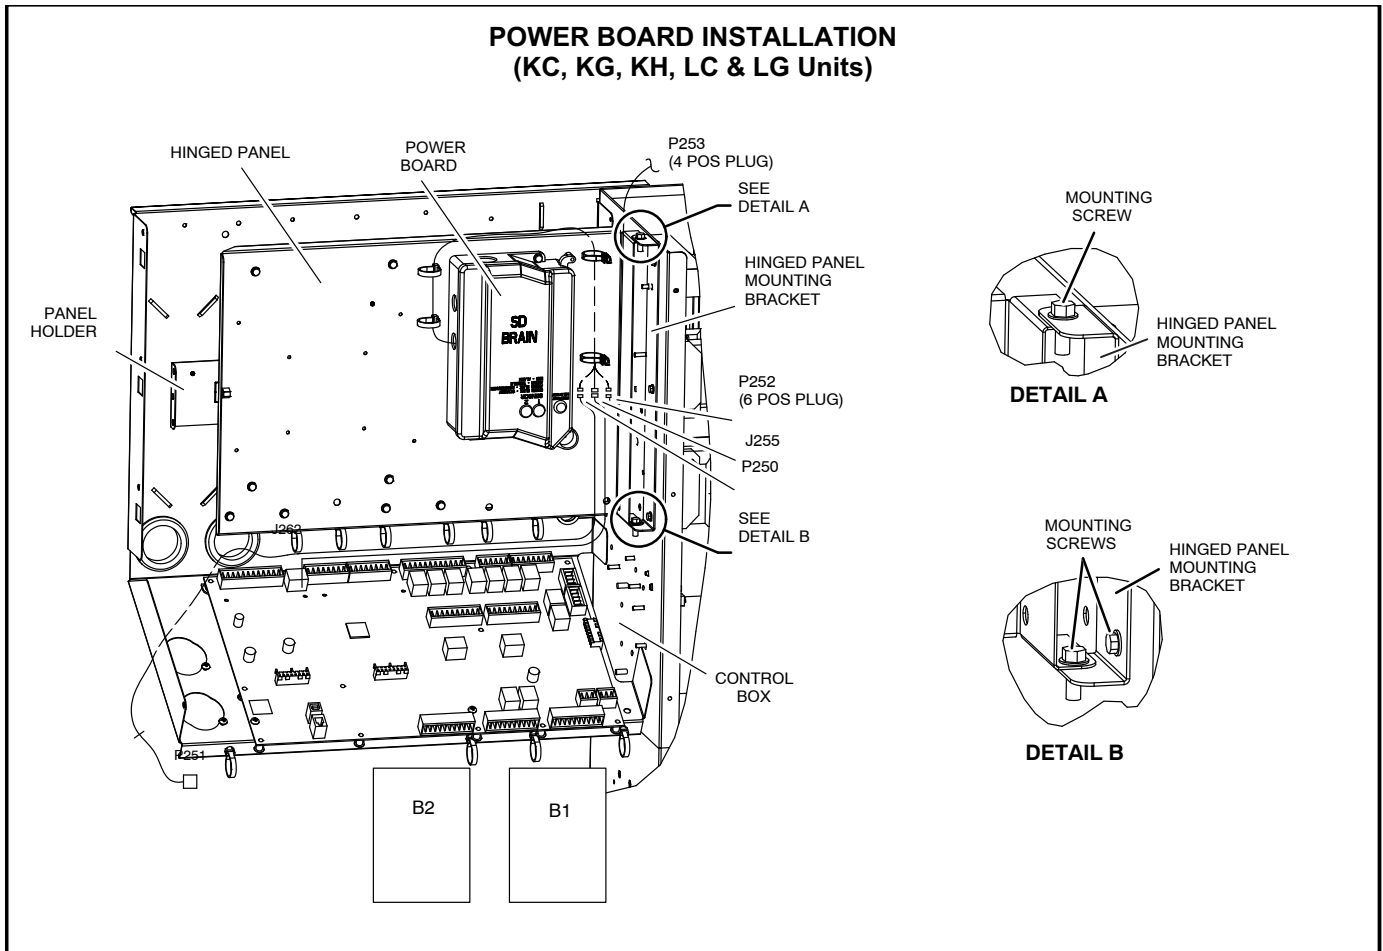

FIGURE 4
- 5 - Use two #8 - 32 X 1/2" screws to secure smoke detector hinged panel to hinged panel mounting bracket. See details A and B on figure 4.
- 1 - Install power board and hinged panel in control box as outlined in steps 4 through 7 in KC, KG and KH wiring section. See figure 4.